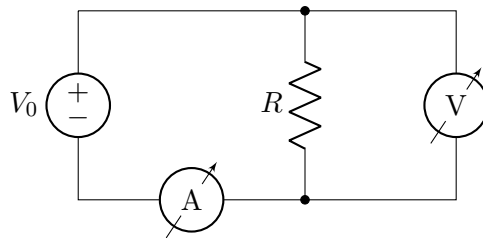

Figure 2: Circuit to measure I and V for a resistor
1. Build a circuit to measure the voltage across and current through an $R = 40\ \Omega$ resistor as shown in Fig. 2. Use the digital multimeter to measure the voltage. For the current meter, use the second digital multimeter set to DC I. You will need to use the input jacks labeled "10 A" (+) and "INPUT LO" (-).